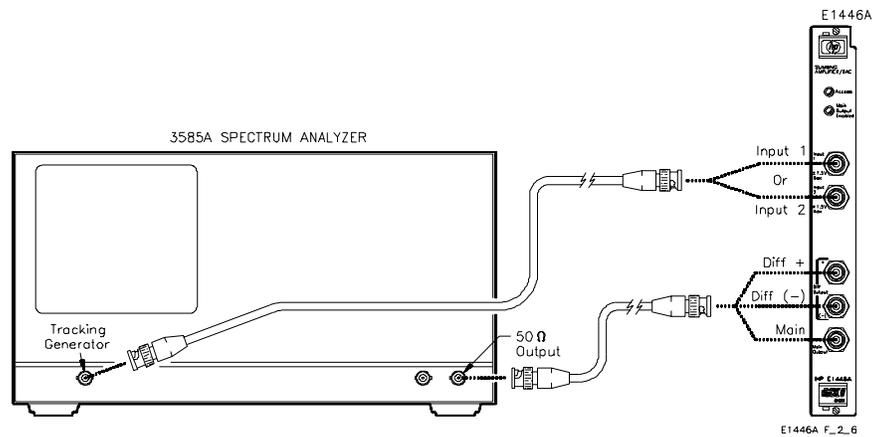

Figure 2-6. Bandwidth Test Setup
2. Connect the Spectrum Analyzer tracking generator output to the amplifier input specified in Table 2-3 (see Figure 2-6).
4. Connect the Spectrum Analyzer 50 Ω input to the amplifier output specified in Table 2-3 (see Figure 2-6).